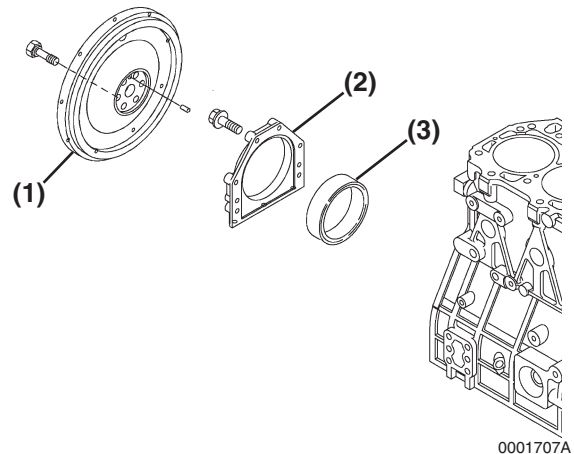

Figure 6-135
7. Apply ThreeBond Liquid Gasket No. 1212, Yanmar Part No. 977770-01212 to the mounting flange of the seal housing (Figure 6-135, (2)).
10. Reinstall the flywheel (Figure 6-135, (1)) and tighten the bolts to the specified torque. See Special Torque Chart on page 6-23 for specifications.